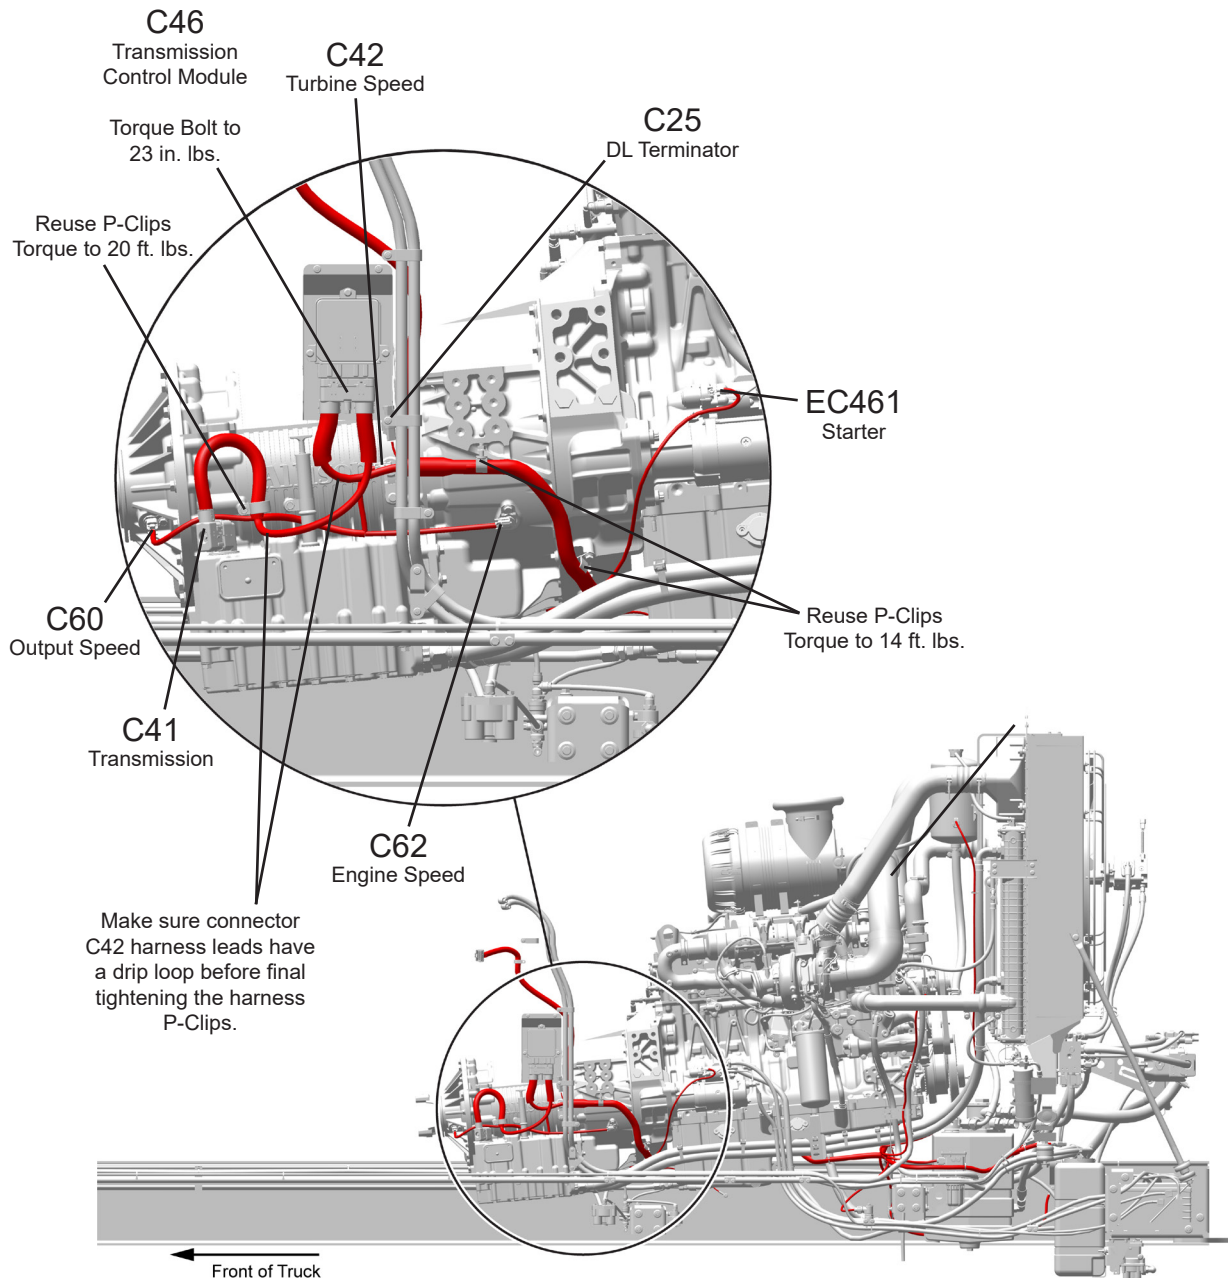

Figure 3
6. Connect the following connectors to left side of vehicle engine/transmission, see Figure 3.